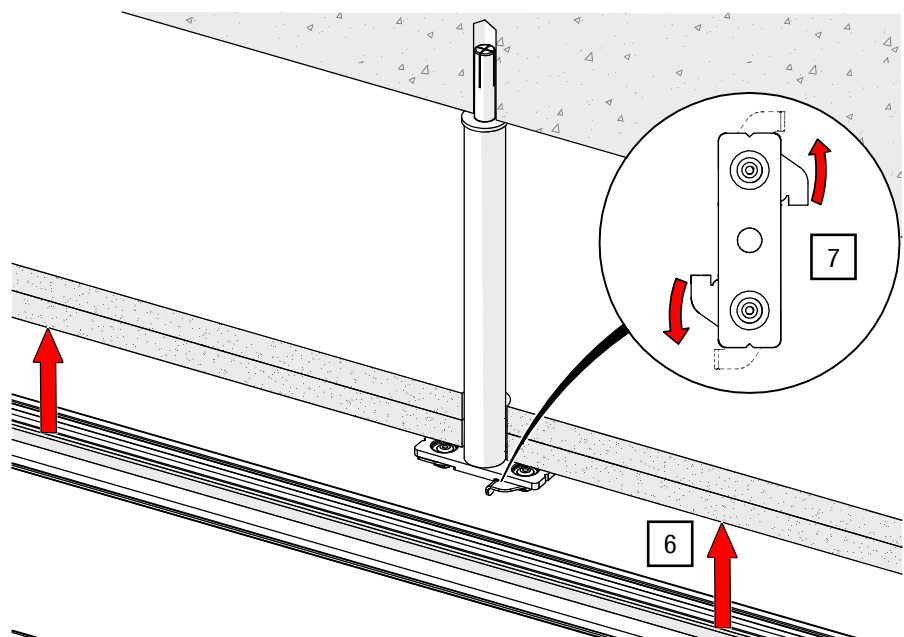

Fig. 39: Ceiling suspension OFFICE – Lift track and lock ceiling mount bracket
6. Position the track at the target location (see Fig. 39).
7. Secure the track to the ceiling mount bracket by locking the levers (see Fig. 39).